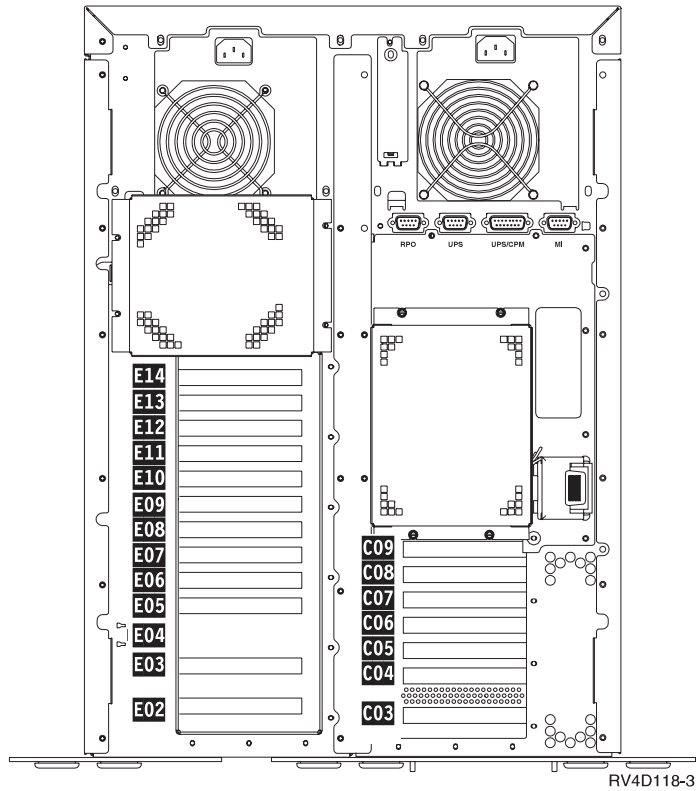

Figure 2. Adapter Card Positions
1. The adapter card slots are C03 through C09 in the base unit and E02 through E14 in the expansion unit, (Figure 2 on page 4).